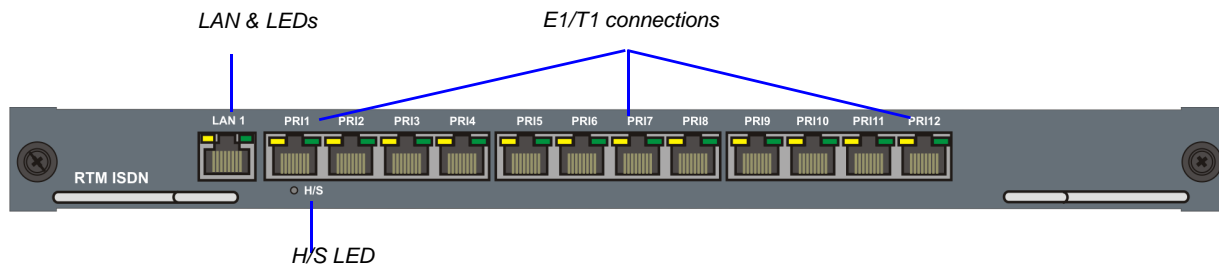

Figure 1-3 RMX 2000 RTM ISDN Rear Panel Layout
- 7 E1 or 9 T1 PRI lines that can be plugged into any of the 12 connections as shown in Figure 1-3